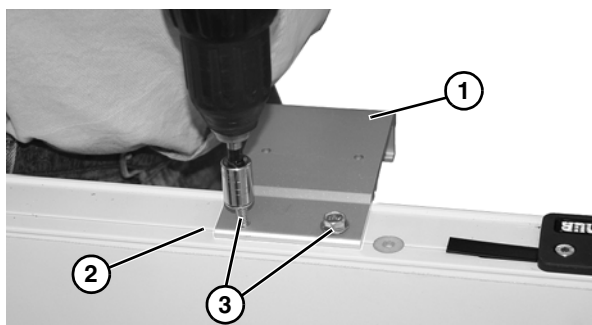

Figure 7
1. Locate and hold bracket (**Figure 7, item 1**) to side rail. Hole should line up with notch (**Figure 7, item 2**) in side rail.
2. With a cordless drill or equivalent install self-drilling screws (**Figure 7, item 3**). Use high speed setting to drill through side wall. Once the tap portion is started switch drill power to a lower speed. Do not fully tighten with drill.